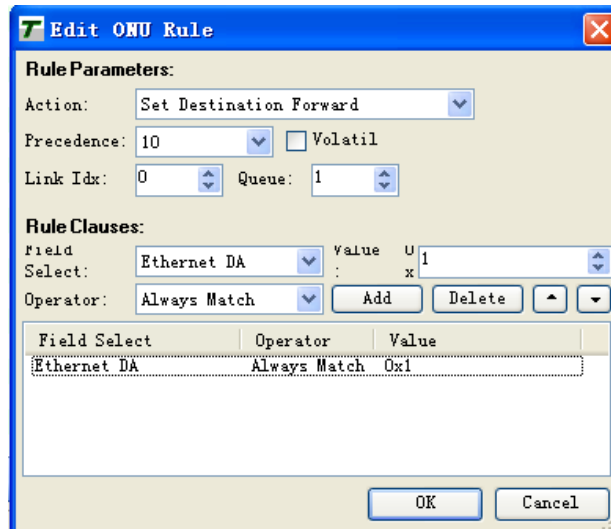

Figure 8-18 Queue Rule Setting
- 3) Set the rule parameters and Clause; for example, as shown in the Figure 8-18, the queue always forwards the flow of Ethernet DA as 1;